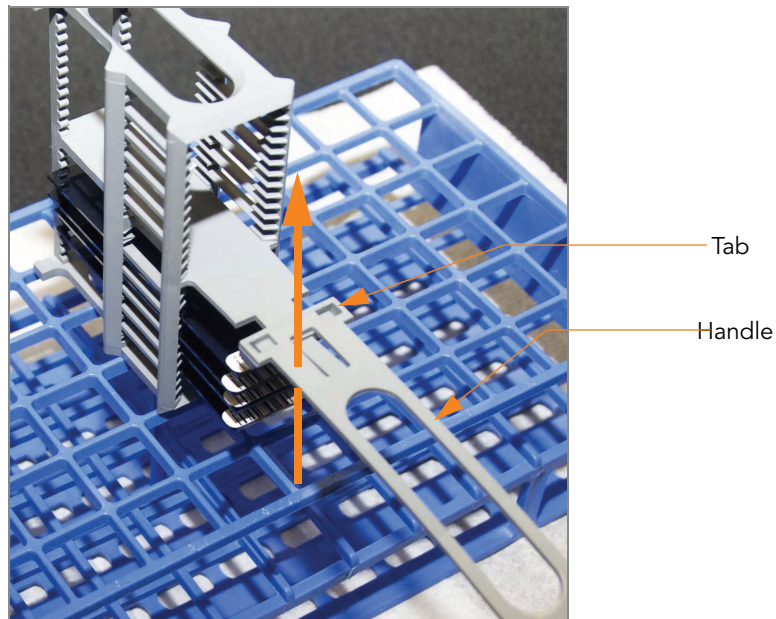

Figure 198 Removing Staining Rack Handle
26. (For both 16- and 24-BeadChip processes) Holding the top of the staining rack in position, grasp the handle between your thumb and forefinger. Push the tab up with your thumb and push the handle away from you to unlock it. Pull up the handle and remove (Figure 198).